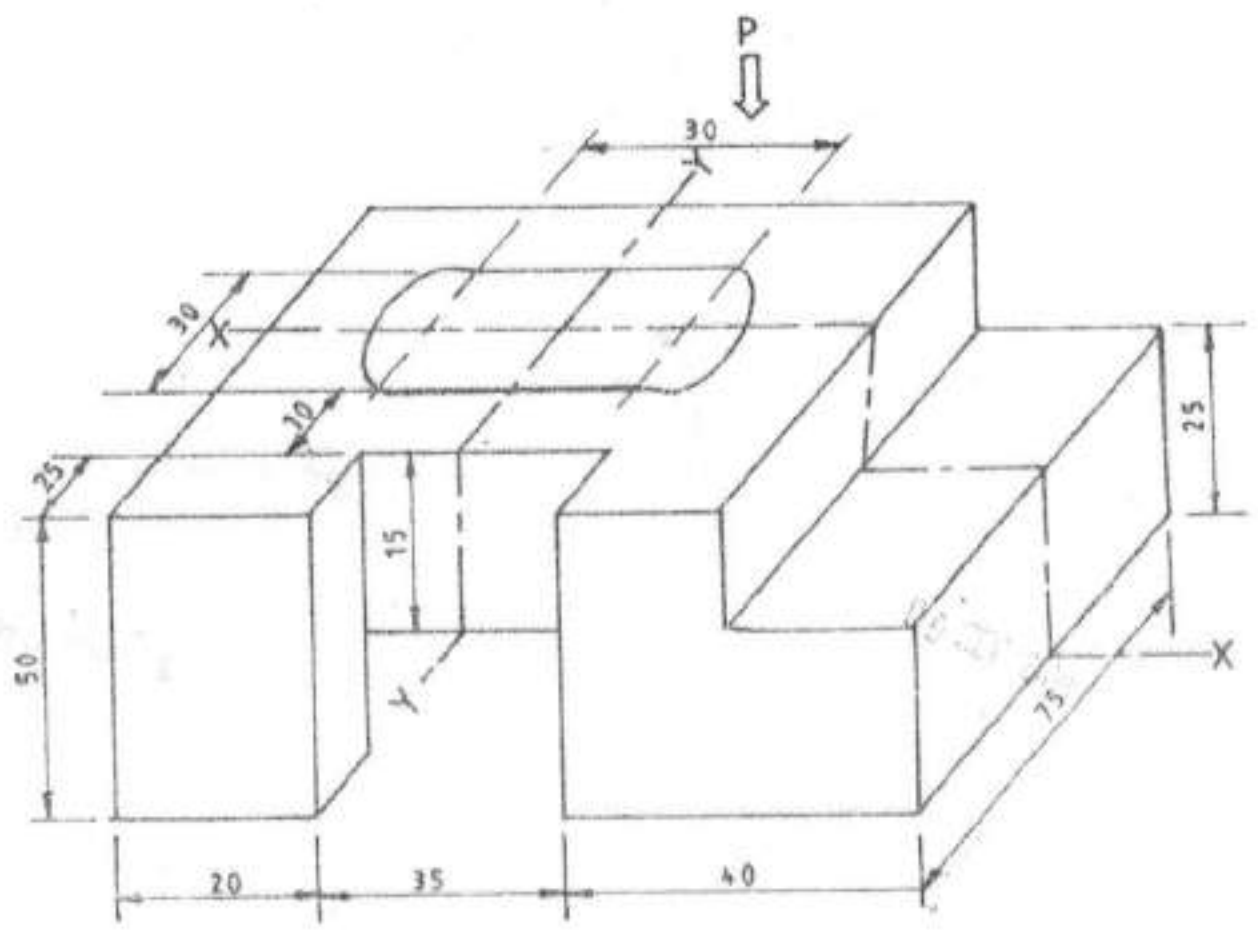

Fig. 7
8. Figure 7 shows a bracket. Draw the full size of the following in 1st angle projection,